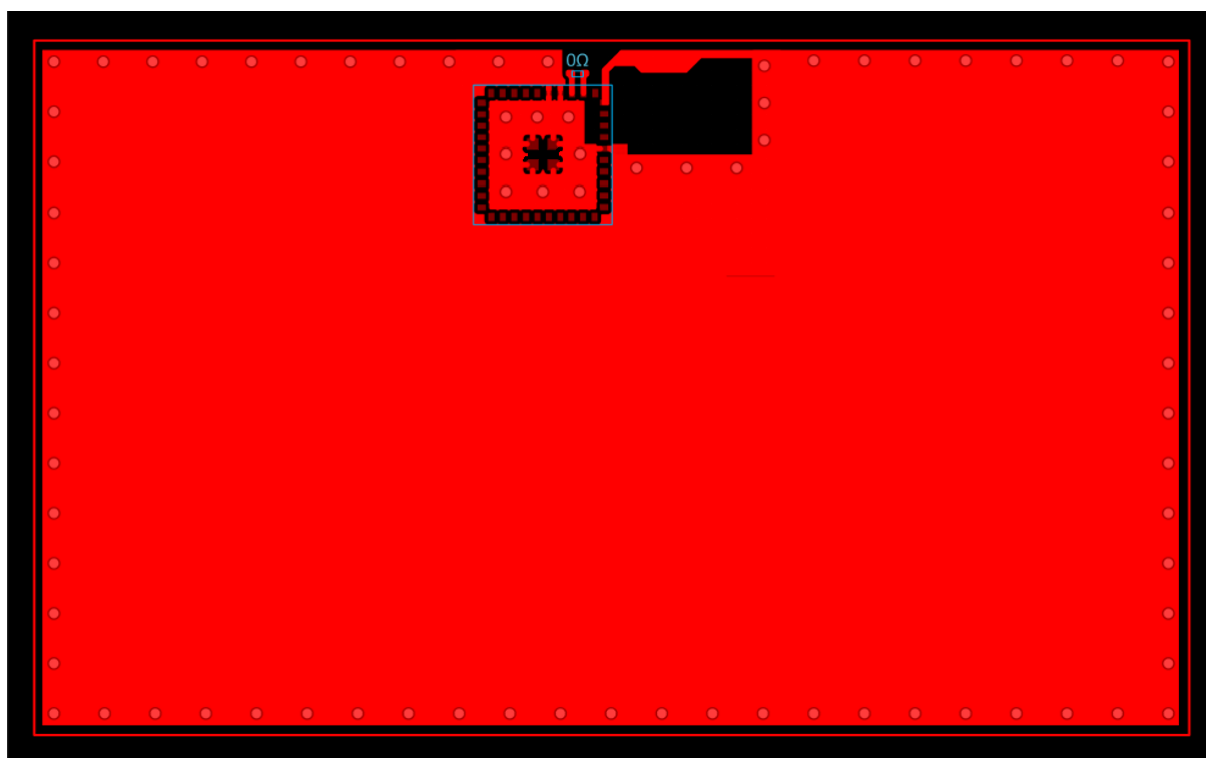
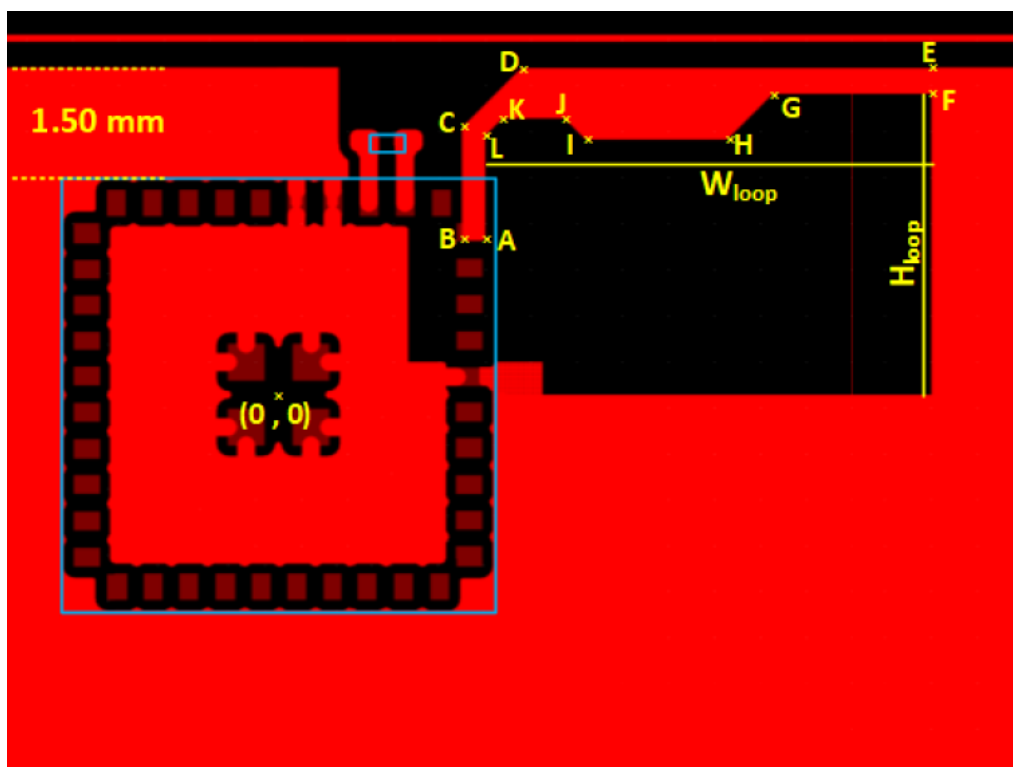

Figure 9: Recommended Layout for Lyra S
Figure 10: Internal Antenna Layout With Coordinates
- Place the module 1.50 mm from the edge of the copper "keep-in" area at the middle of the long edge of the application PCB, as illustrated in Figure 9.
- Copy the exact antenna design from Figure 9 with the values for coordinates A to L given in Figure 10.